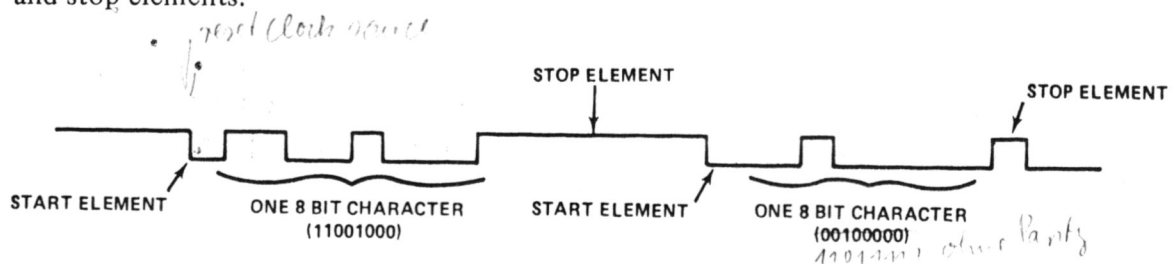

FIGURE 1. ASYNCHRONOUS DATA
The bits which comprise a data character (generally from five to eight bits in length) and synchronizing start and stop elements are added to each character as shown in Figure 1. The start element is a single logic zero (0) data bit that is added to the front of each character. The stop element is a logic one (1) that is added to the end of each character. The stop element is maintained until the start element of the next character is transmitted. There is no upper limit to the length of the stop element. However, there is a lower limit that depends on system characteristics. Typical lower limits are 1.0, 1.42 or 2.0 data-bit intervals (although most modern systems use 1.0 or 2.0 stop bits). The negative-going transition of the start element defines the location of the data bits in the character being transmitted. A clock source at the receiver is reset by this transition and is used to locate the center of each data bit.